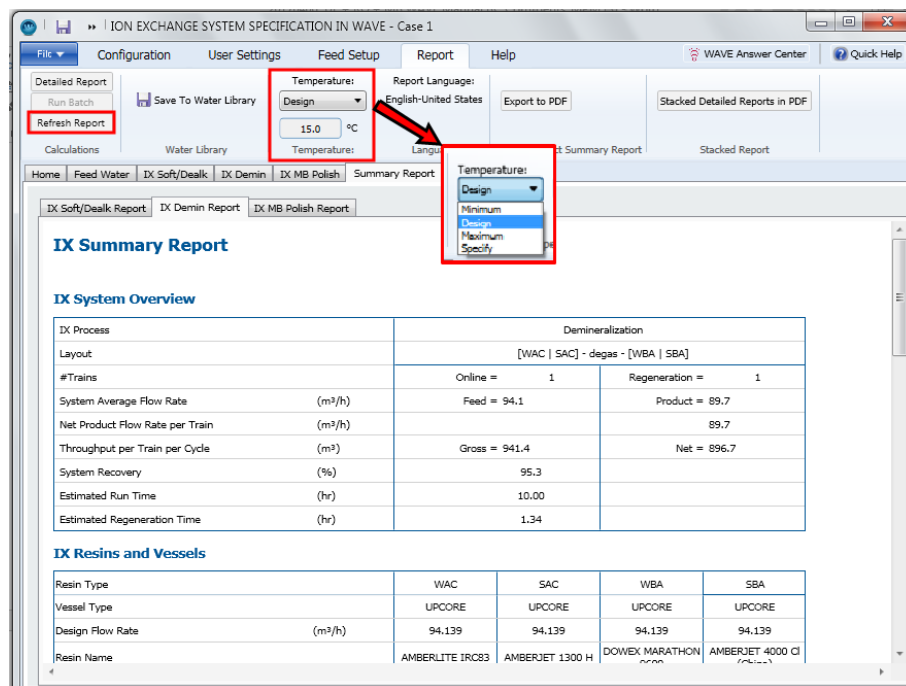

Figure 184. Re-evaluating the design at a different feed temperature
After the first simulation of the system, WAVE allows the user to rerun the simulation at a different temperature by following these steps (Figure 184):
2. Click on the “Refresh Report” button (see Figure 184).